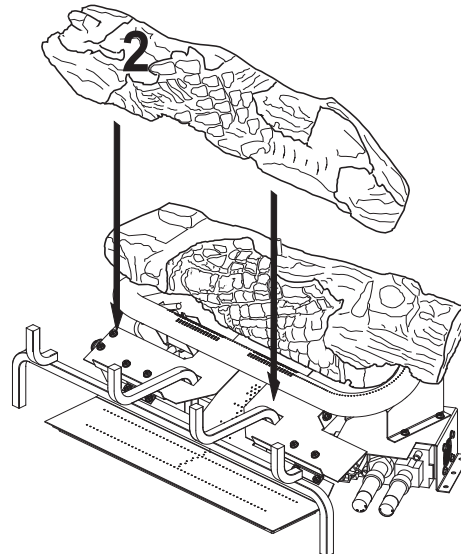

Figure 30 - Installing Log # 2
2. Place the middle log (#2) in front of "U"-burner and against the edges of plate as shown in **Figure 30**.